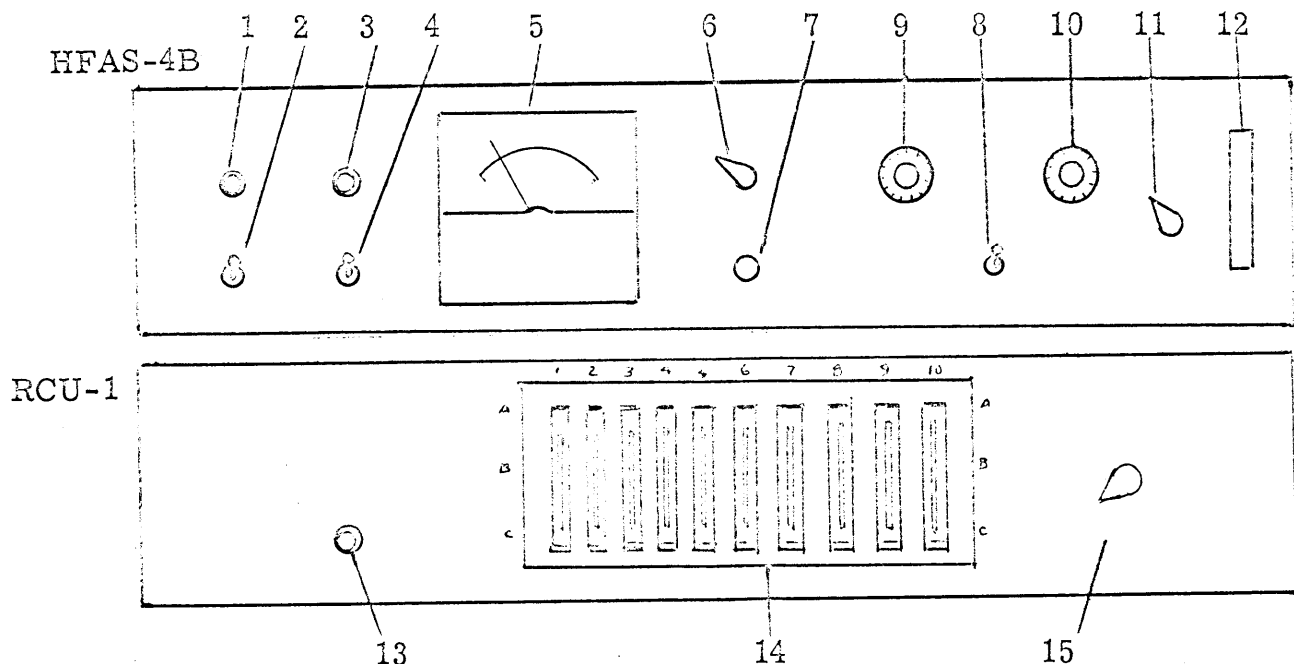

Figure 3-2b. Control Locations, Linear Amplifier
* See figure 3-2b. for unit control descriptions.